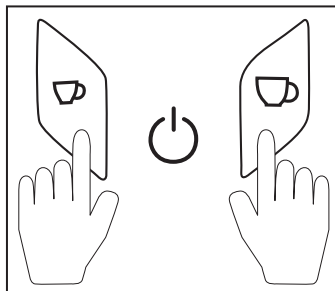

Fig. 1
- Press the Espresso ☕ ② and Lungo ☕ ④ button at the same time (see Fig. 1). The buttons go dark and the appliance switches itself off.